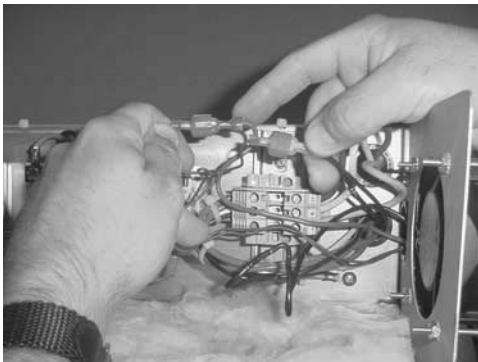

Figure 3-23
2. Unplug connectors to the cooling fan. Figure 3-23.